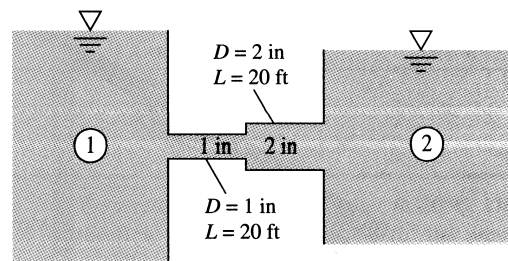

Fig. P6.103
6.103 The reservoirs in Fig. P6.103 are connected by cast-iron pipes joined abruptly, with sharp-edged entrance and exit. Including minor losses, estimate the flow of water at 20°C if the surface of reservoir 1 is 45 ft higher than that of reservoir 2.